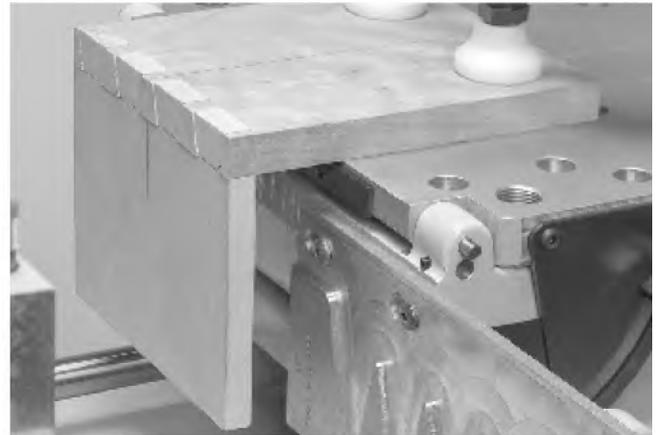

FIGURE 6. Make sure your dovetail test piece will fit over the rails so you can test in place. Sneak up on a perfect fit with small adjustments.
32. More than likely, the joint will be too tight at this point. Positioning the Stylus Pin lower means that you can "sneak up" on the fit. If your joint is too sloppy, you have to cut the pins off and start the test procedure over. If the pins are too tight, you can adjust the Stylus up in small increments until you get the fit you want. Notice in the photo that the tail board is short enough to test the fit to the pin board without un-clamping the pin board from the table. Once the fit is dialed in, your actual workpieces can be any length, but it is best to work with short stock for the test cuts. *FIGURE 6.*